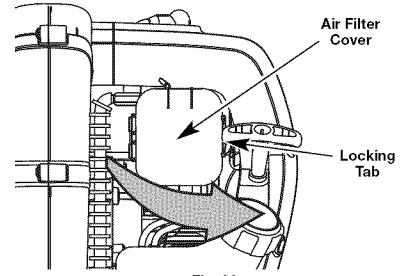

Fig. 20
- Swing the cover to the right until the tab on the air filter back plate snaps into place in the slot on the air filter cover (Fig. 20).